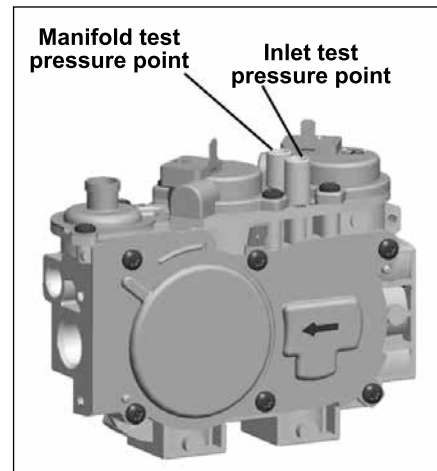

Figure 59: Pressure Test Points.
- b. Place a ¼" silicone tube over either pressure port on the valve (refer to Figure 59). Attach the tube a mono meter.